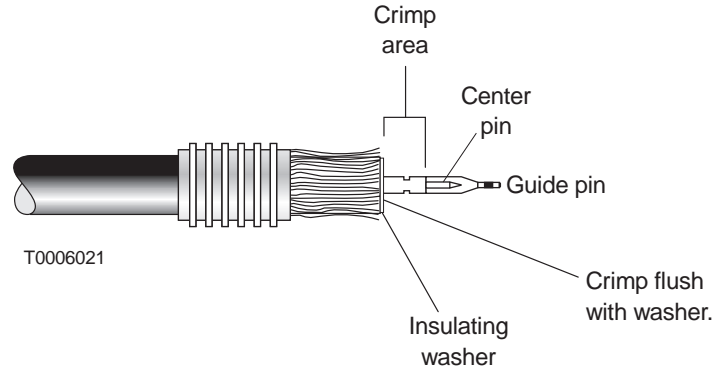
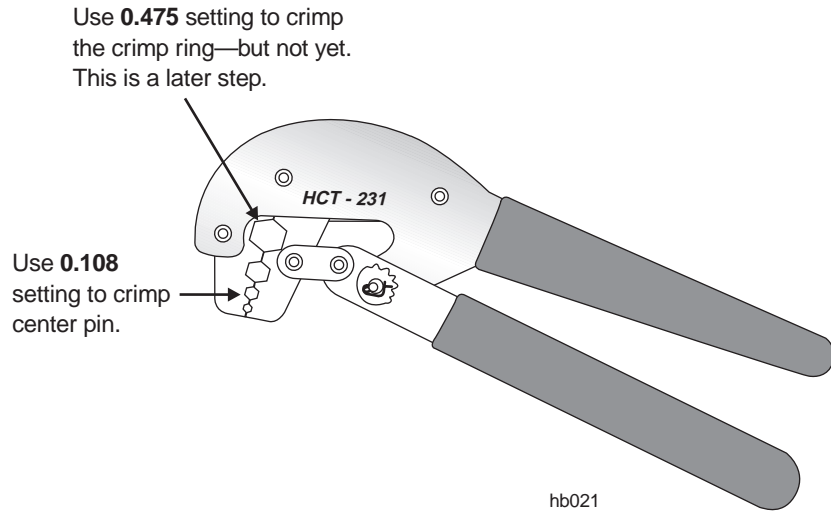

Figure C-7 Installing the insulator and center pin
Figure C-8 Crimping tool
2. Push the center pin (with guide pin attached) over the cable center conductor, as shown in figure C-7.
3. Use the HCT-231 crimp tool (figure C-8) to crimp the center pin flush with the washer, as shown in figure C-7. If the center pin is bent after crimping, cut the cable, re-strip it, and attach a new center pin.